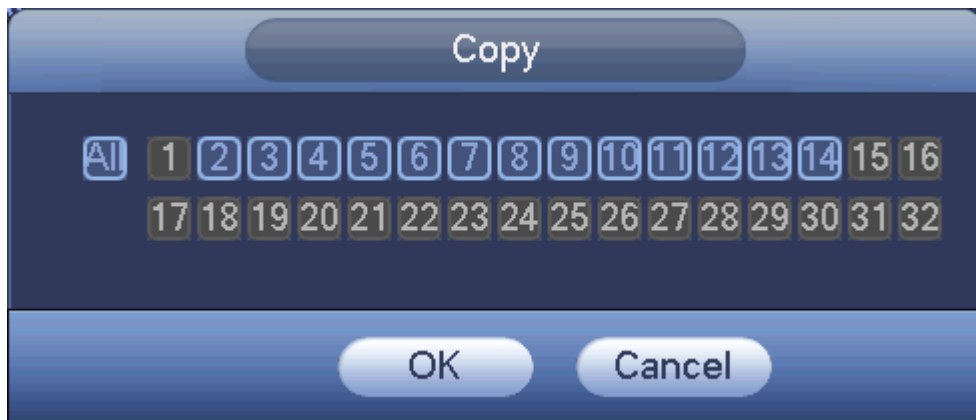

Figure 4-51
- Copy: After you complete the setup, you can click Copy button to copy current setup to other channel(s). You can see an interface is shown as in Figure 4-51. You can see current channel number is grey. Please check the number to select the channel or you can check the box ALL. Please click the OK button in Figure 4-51 and Figure 4-49 respectively to complete the setup. Please note, once you check the All box, you set same encode setup for all channels. Audio/video enable box, overlay button and the copy button is shield.